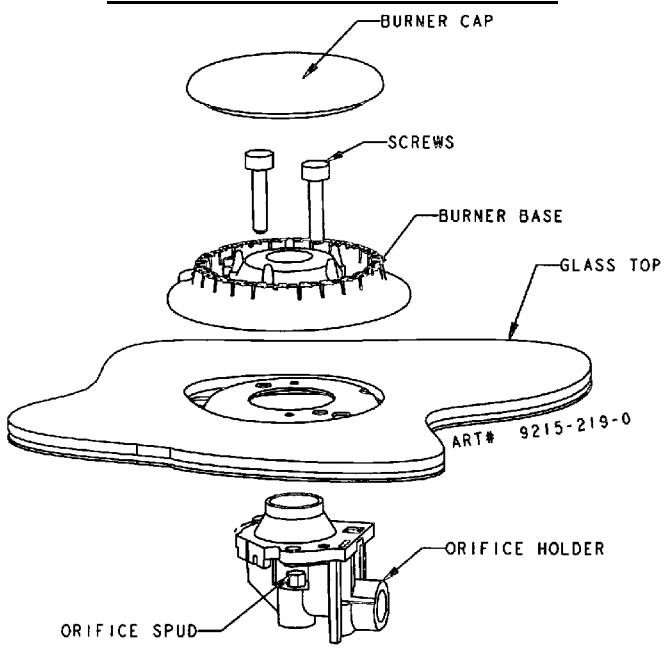

FIGURE 7
**Step 2:** Remove burner base by removing 2 screws. (See figure 7).
**Step 3:** Firmly press 9/32" (or 7mm) nut driver over the orifice spud (figure 7) and loosen spud by turning counter-clockwise. Carefully lift nut driver out of burner throat. Orifice spud should be captured in the recess. Repeat this step for each burner.